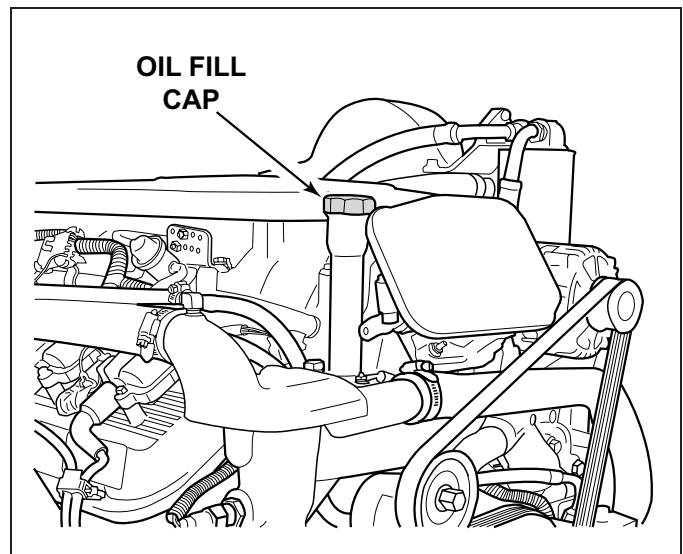

Figure 11-20 Engine Oil Fill (8.1L)
4. Fill the engine with the recommended oil, see OIL REQUIREMENTS, through the oil fill location on the valve cover (Figure 11-20).